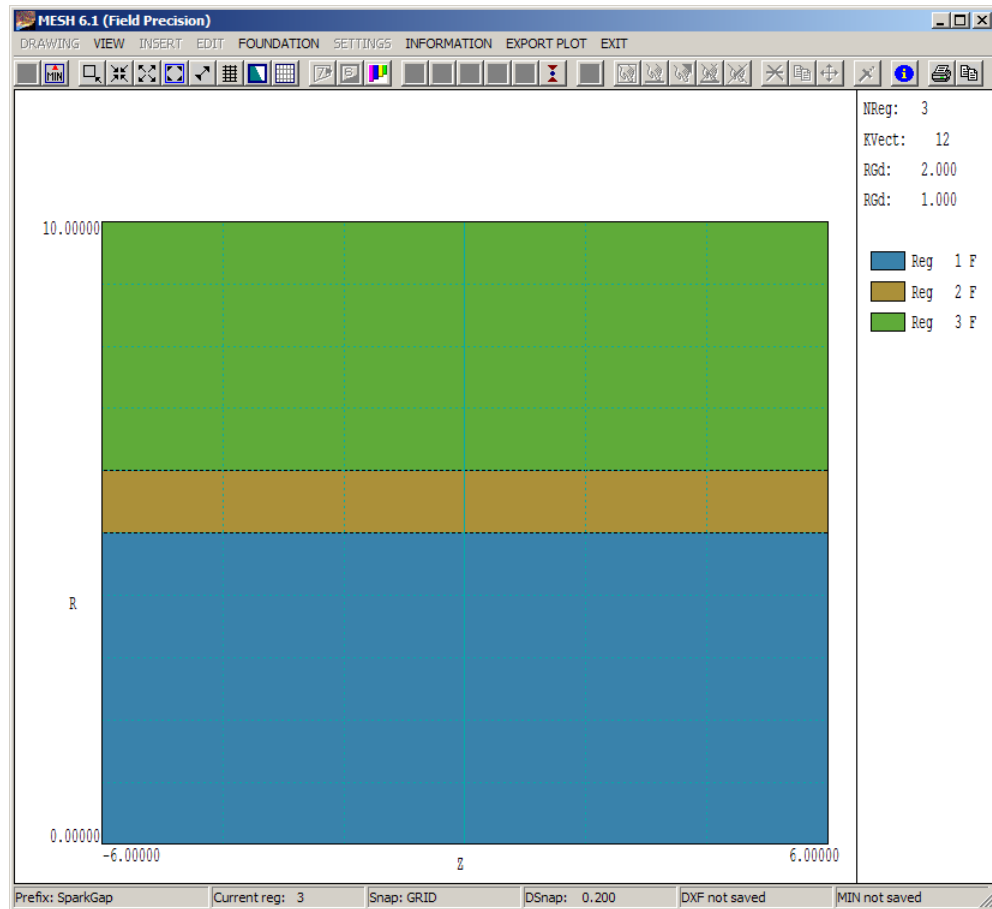

Figure 10: Appearance of Regions 1,2 and 3 in the fill display mode.
We can check that the *Filled* regions are correct (*i.e.*, the vectors are connected and outline closed areas). Click on the menu command *View/Toggle fill display* or use the tool. The screen plot changes from a vector display to one that shows the areas occupied by filled regions (Fig. 10). Note that all menu commands for entering and editing vectors have been deactivated. The program must be in the vector-display mode to create new entities. Click on the command again to return to the vector mode. This is a good point to backup your work using the *Drawing/DXF/Export* command.
- Checking that the region order correctly implements overwriting. For example, in Fig. 10 note how the electrodes over-write the space shared with the gas, ceramic and oil regions.